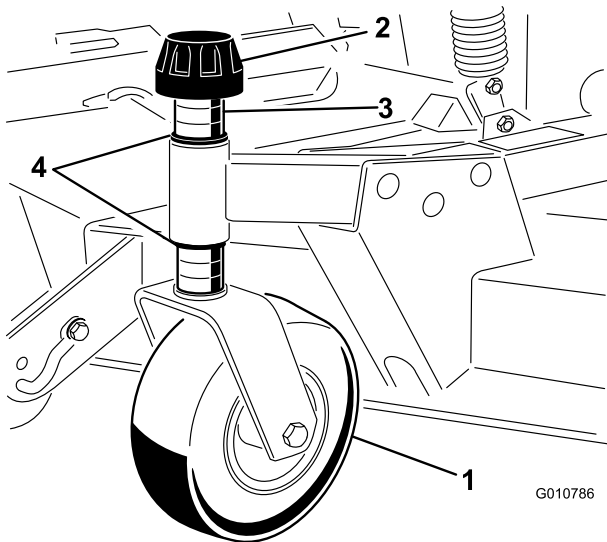

Figure 9
1. Remove the tensioning cap from the spindle shaft and slide the spindle out of the front castor arm (Figure 9).